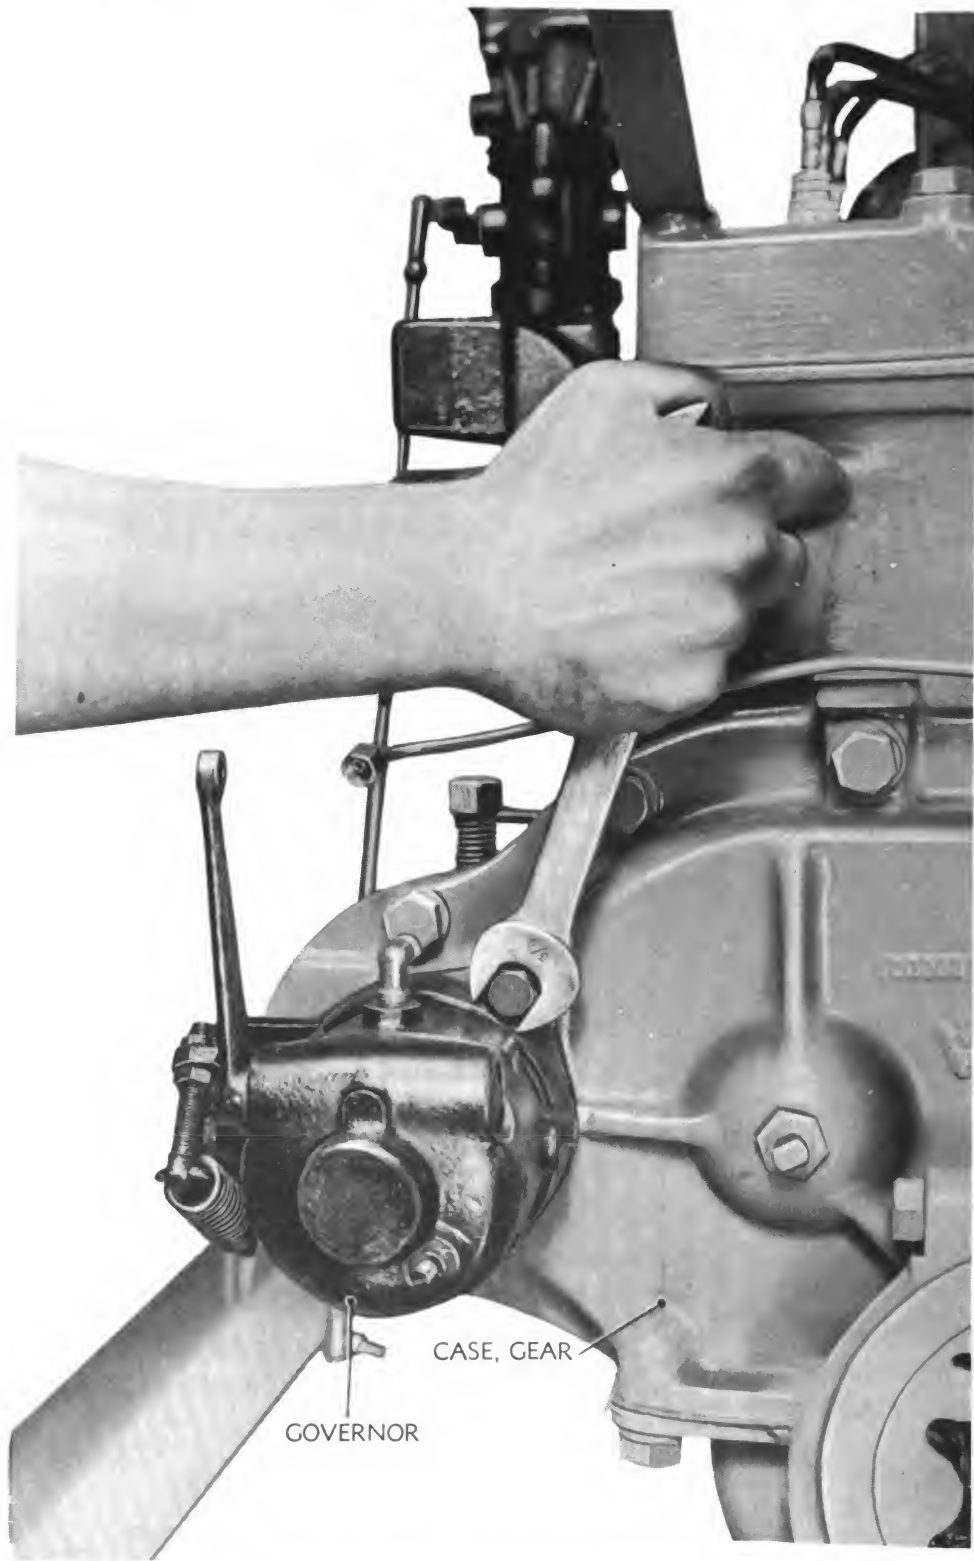

Figure 22 — Governor Removal
(1) Remove fan belt.
(2) Remove fan and bracket.
(3) Loosen nut holding lubricating oil line to the compression ell at the top of the governor (fig. 21). Hold hexagonal section of ball pin linkage joint at governor. Remove nut, and disconnect linkage from governor. Take out cap screws holding governor to engine (fig. 22), and remove governor.
(4) Remove battery-charging generator.